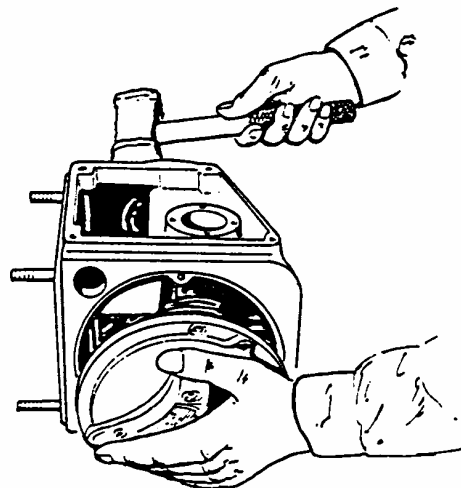

FIGURE 4A
- B. LAY TRANSMISSION ON ITS SIDE AND WITH A LEAD OR RUBBER Mallet LIGHTLY TAP THE END OF SUN SHAFT (SEE FIGURE 4A). COVER WILL SEPARATE FROM TRANSMISSION HOUSING. STAND TRANSMISSION UP AND LIFT COVER AND SHAFTS OUT OF HOUSING. NOTE: ROTATE GEARS AS NECESSARY TO CLEAR TRANSMISSION HOUSING.